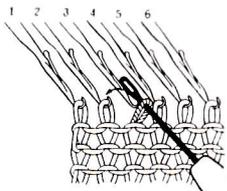

Fig. 58
- a. Use one needle transfer tool, transfer the 3rd stitch to the second needle. (See Fig. 58)